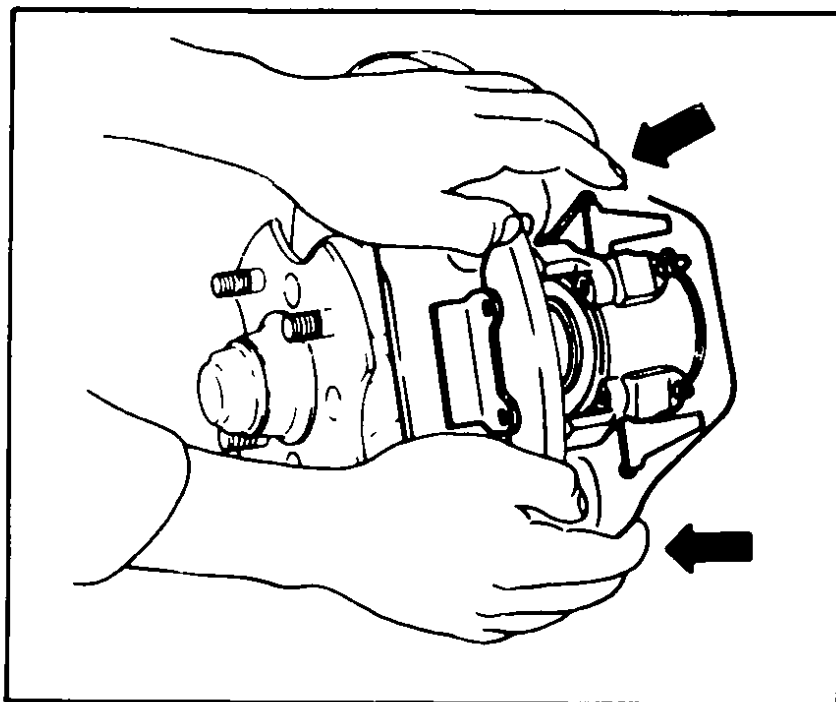

Fig 111 Pulling inner piston – Models B210 and 610
- 6 Push the inner piston into the cylinder by pulling the yoke, Fig 111. Now the outer pad can be installed.